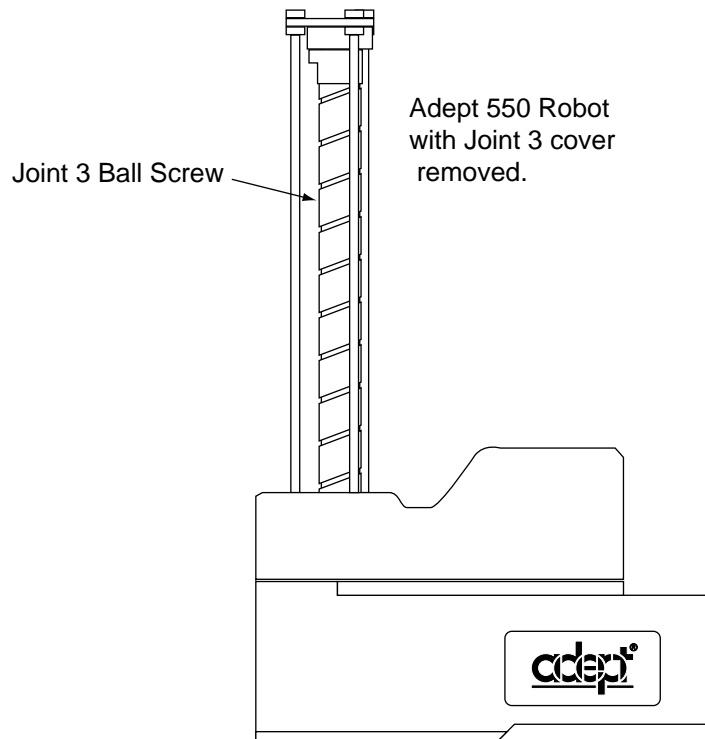

Figure 7-1. Lubrication of Joint 3 Ball Screw
2. Remove the Joint 3 cover by removing two nuts (using an 8 mm socket) on the top of the cover and lifting the cover up and off. See Figure 7-1.